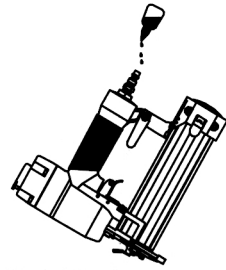

Figure 2
1. Determine if the tool needs oil and, if necessary, place two drops of oil in the AIR PLUG(77) as shown in Figure 2. If you are using an automatic in-line oiler, check and add oil if necessary.